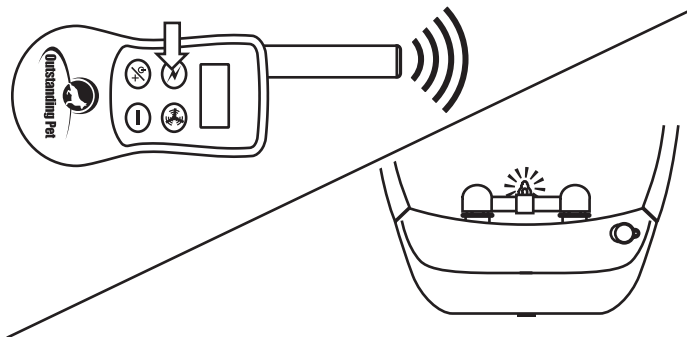

figure 5 – Receiver Collar Test Light Turning On
2. Press the  button on the Remote Transmitter, the Test Light will turn on (*figure 5*).